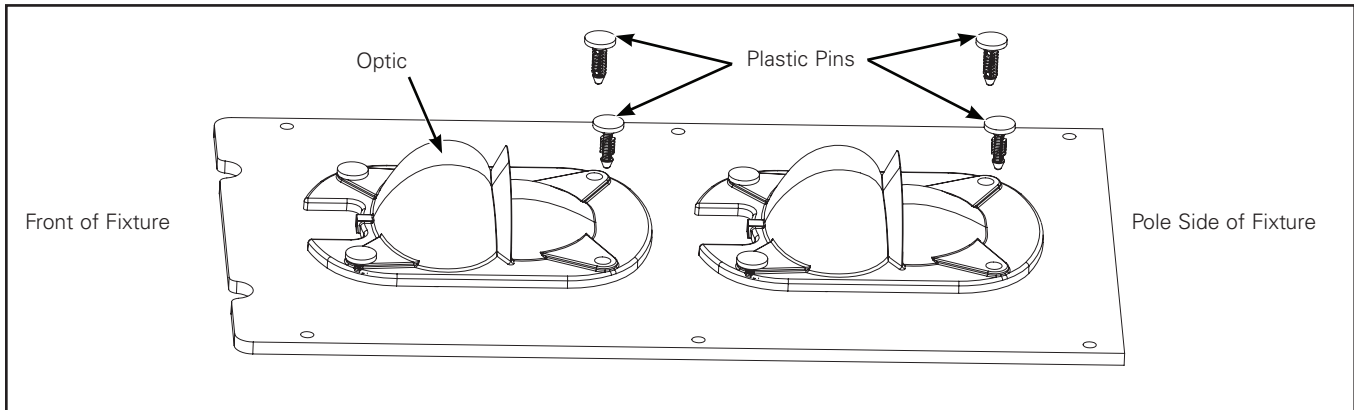
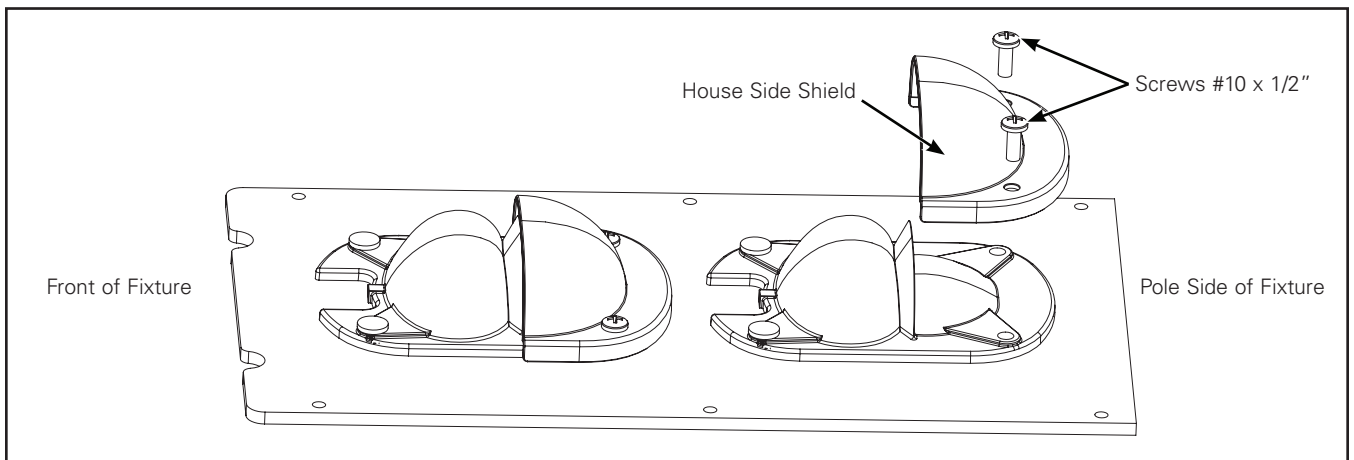

Figure 1.
Figure 2.
House Side Shield (Figure 1. and Figure 2.)
1. Remove plastic push pins on back side of optic. (Figure 1.)
Note: House side shield must ONLY be installed on the back side of the optics as shown in (Figure 2.)